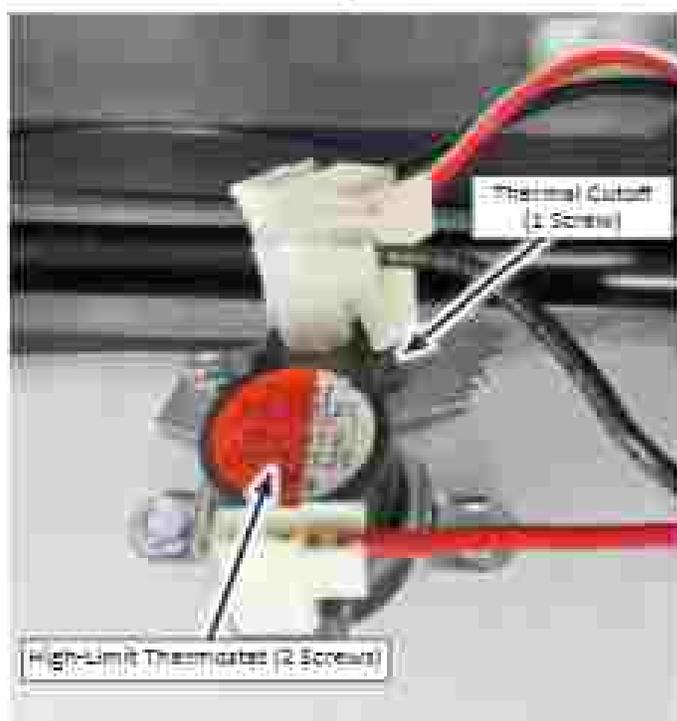

Figure 5 - See Barrier Thermostats
7. To remove the High-Limit Thermostat or the Thermal Cutoff (see Figure 5):
- Disconnect the two (2) wire connectors from the component terminals.
- Remove the two (2) screws from the High-Limit Thermostat, or the single screw from the Thermal Cutoff. Remove the component from the venturi.